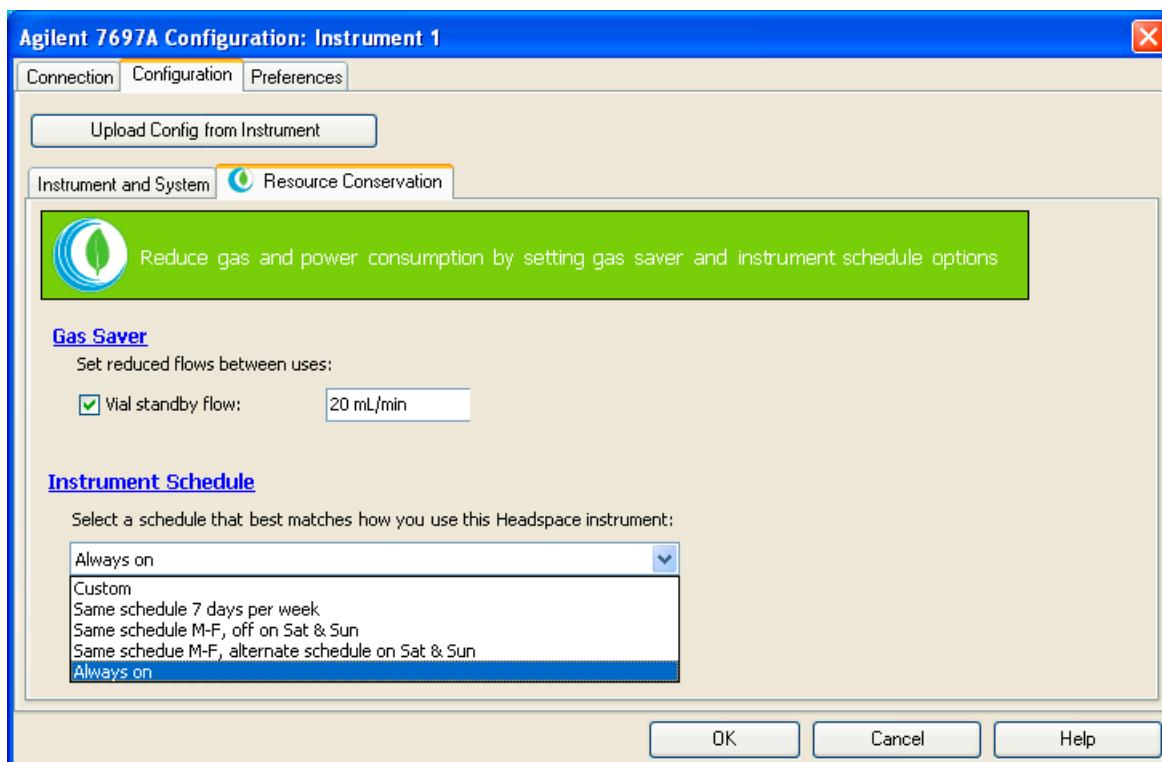

Figure 10 Setting resource conservation parameters
- 4 Select **Configuration > Resource Conservation** (Figure 10) to configure gas and instrument schedules that can help conserve resources during laboratory downtime.